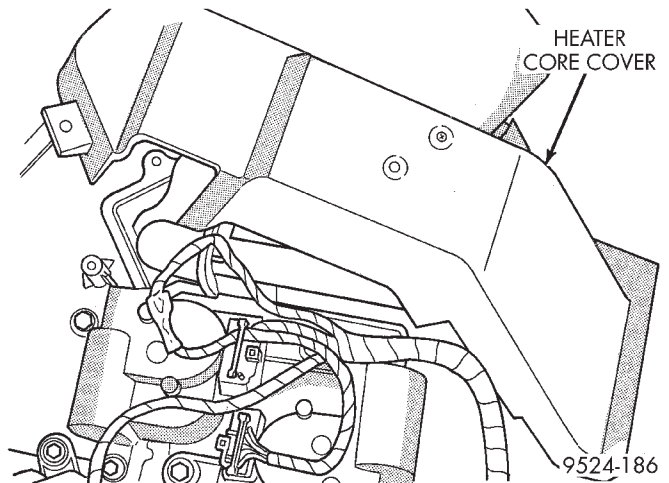

Fig. 56 Heater Core Cover
(2) Remove heater core cover (Fig. 56).